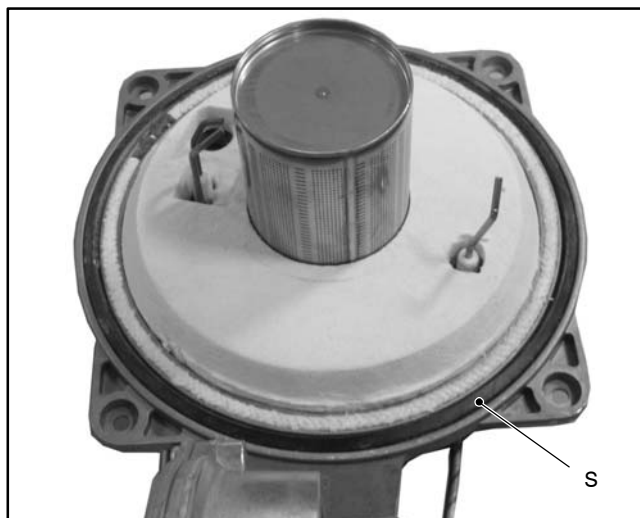

Fig. 5.4
**The siliconic gasket *S* Fig. 5.4 must be replaced every 2 years.**